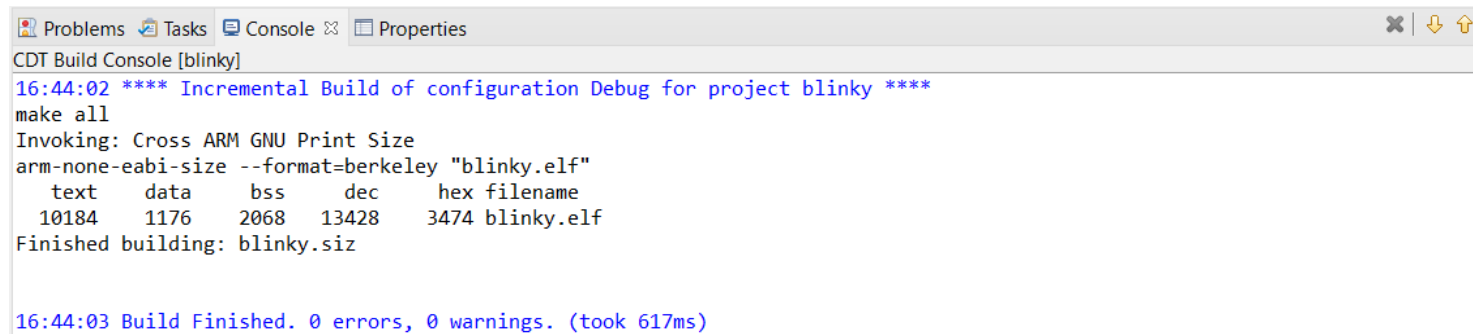

Figure 10. Example of Build Output
- When the build is running, the output of the build is shown in the onsemi IDE C/C++ Development Tooling (CDT) Build Console, as illustrated in the "Example of Build Output" figure (Figure 10).